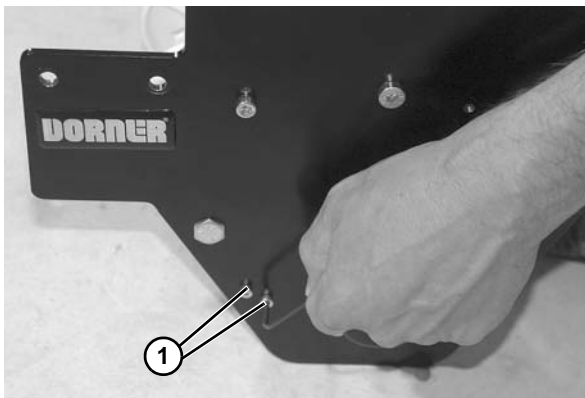

Figure 53
5. Remove two socket head screws (Figure 53, item 1) on both sides of the conveyor.